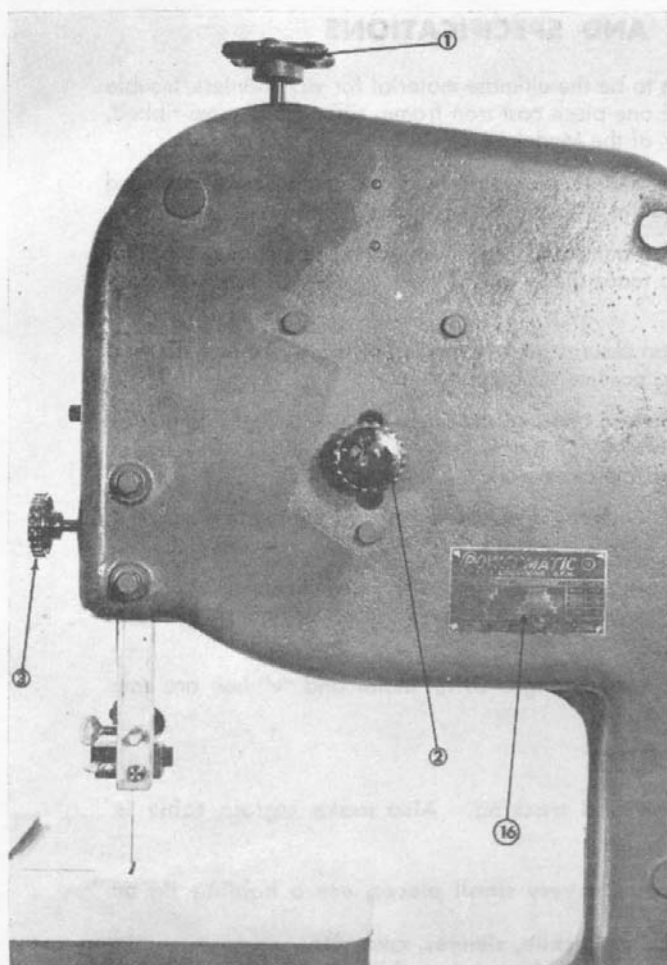

FIGURE 1
INSTALLING BLADE: To install band saw blade, remove taper pin from front of table; open the large hinged doors. Take the blade in both hands and slide through the table slot and over band saw wheels. With blade placed in the center of the band wheels, increase tension with tension screw (1) fig. 1. Set upper and lower saw guides so that they will clear the saw blade. Turn the band wheels by hand to see that saw blade tracks properly. If blade runs to the front of the band wheel, handwheel (2) fig. 1 should be turned to the right or clockwise until blade runs to center of wheel. If blade runs to the back, turn handwheel (2) fig. 1 to left or counter-clockwise. For accurate work and maximum blade life it is important that the blade runs centered on the wheels. When the adjustment has been properly made, the blade will track; that is, it will run steadily in the same line.